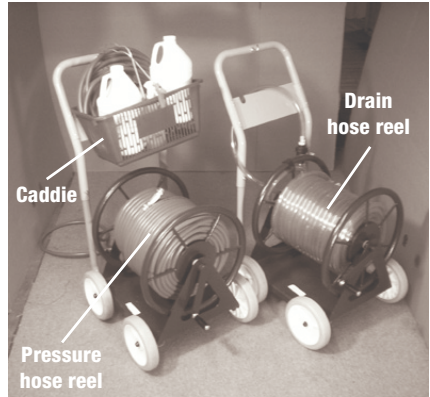

Figure 29: Hose reels
B. Hose Reels- Hose reels may be purchased with the machine (fig 29). They come in pairs one hose reel for the pres-